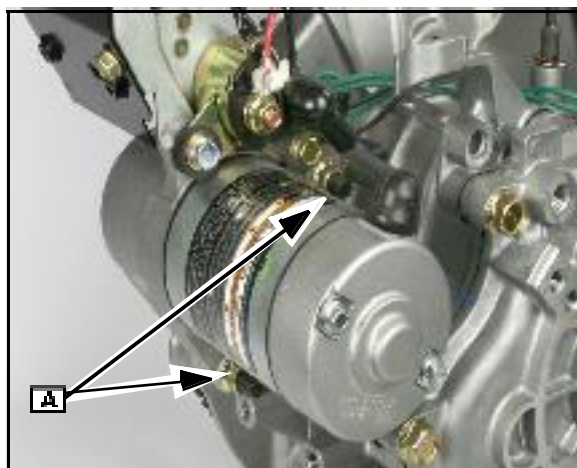

Fig. 35
3. Remove the nuts ([A] Fig. 35) that support the starter motor.